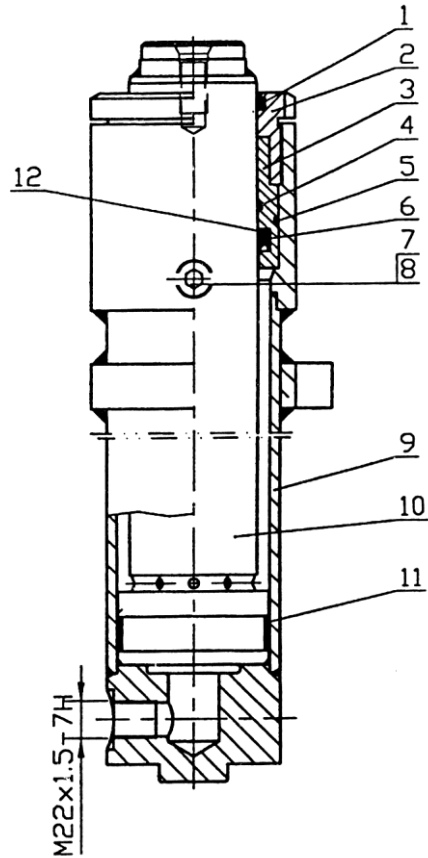

Figure 10-10 Lifting the cylinder freely
- 2) See Figure 10-9 and Figure 10-10 for the structure of a forklift truck less than 2.5 tons.